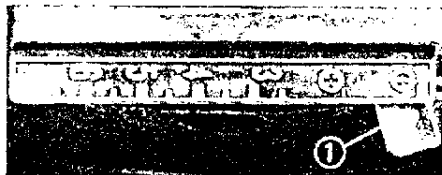

Fig. 23
(I) DIMENSION LONGITUDINALE - FIG. 23
EN POUSSANT VERS LE BAS LE LEVIER - FIG. 23 (1) METTRE L'INDICATEUR EN POSITION 0